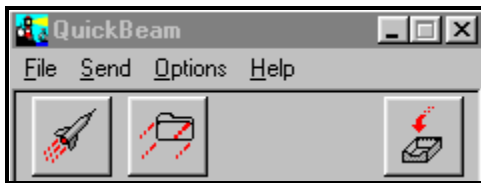

Figure 60: QuickBeam Window
**Note:** A quicker way to send files (replace steps 4 and 5 above) is to click on the desired file, and drag it onto the rocket button in the QuickBeam window, as shown in Figure 60.